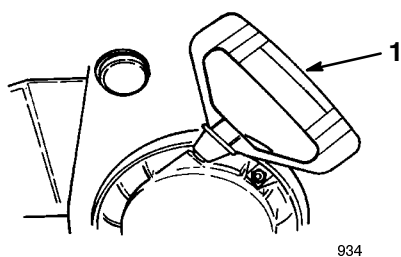

Figure 22
- **Recoil Starter** (Fig. 22)—The recoil starter is on the back side of the engine. Pull the recoil starter to start the engine.
7. Grasp the recoil starter handle (Fig. 22) and pull it out slowly until positive engagement results; then pull the handle vigorously to start the engine.